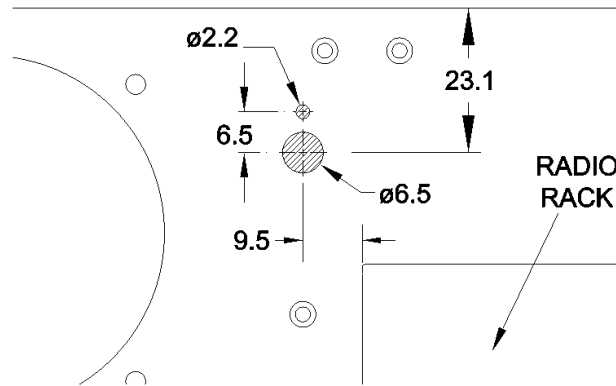

Figure 4a: Trim DIM/BRIGHT Switch
10.14 Remove labels and drill holes in instrument panel for Trim DIM/BRIGHT switch, Dimmer Rheostat and Fuel Valve LED, in accordance with Figures 4a, 4b and 4c.